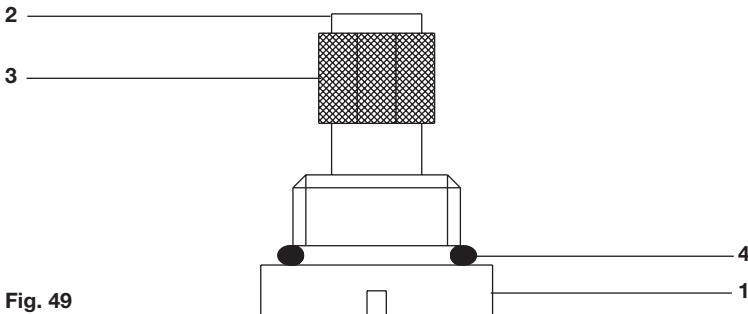

Fig. 49
- Fit the 'O' ring (4) and filter (3) onto the filter plug (1) (refer to Figure 49).
- Finally fit the retaining screw (2).